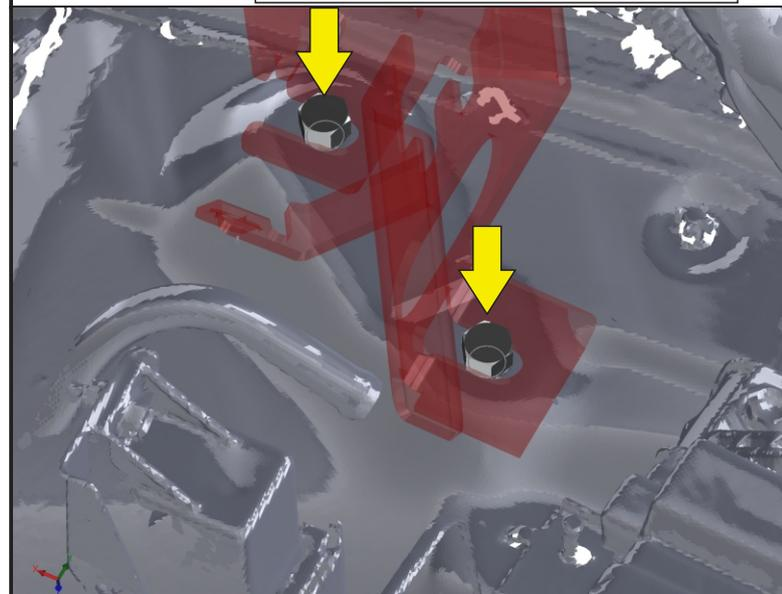

FIG. 4c FB9817FC BRACKET INSTALLATION
10. Proceed to fully tighten the OEM M8 Bolts shown in Fig. 4c.